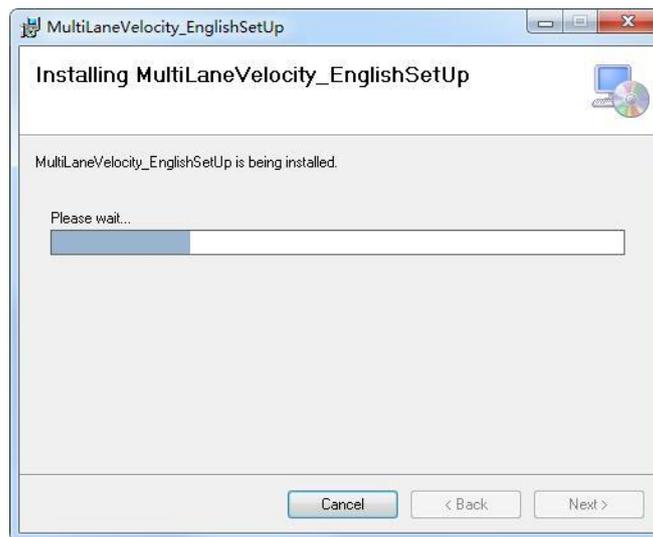

Figure 2-3 Install Software
4. Click **Next** to continue. The setup wizard will complete the software installation automatically, as shown in Figure 2-3.